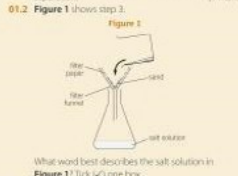

Figure 1: What word best describes the salt solution in Figure 1? Tick (✓) one box.
- Explain why the sand becomes the residue in Figure 1. (2 marks)